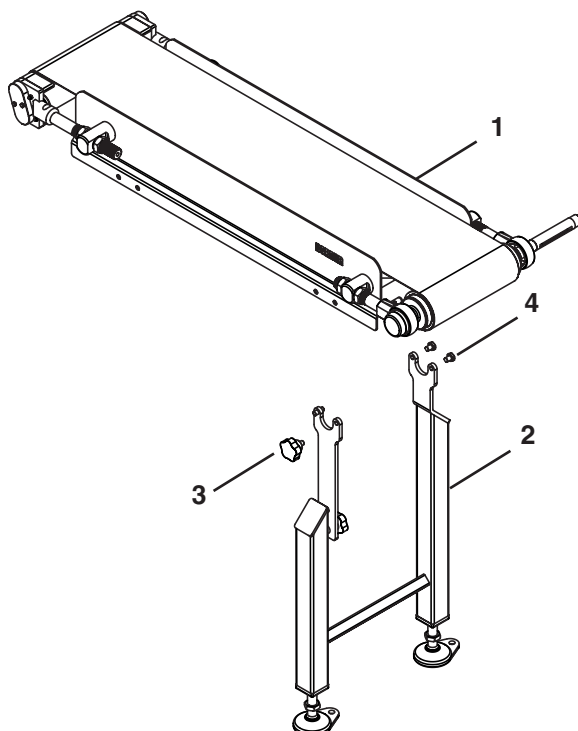

Figure 16
Typical Stand Components (Figure 16)
3. Attach the quick-release arm to the stand with the knob. (Figure 16, item 3).